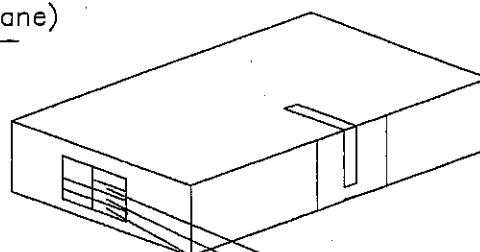

Fig.4
3. Seal the packing box , and print the model No., quantity and lot No. (500pcs. / a packing box) (Fig. 4)